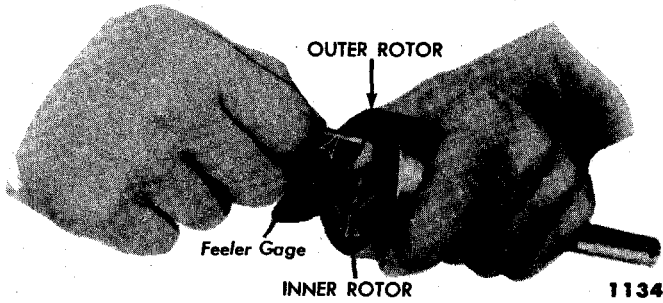

Fig. 15—Measuring Clearance Between Oil Pump Rotors 1134
(4) **INSPECTION.** Visually check all parts for breakage. Measure clearance between rotors as shown in fig. 15. Clearance should be 0.006-0.010 inch between the rotors.